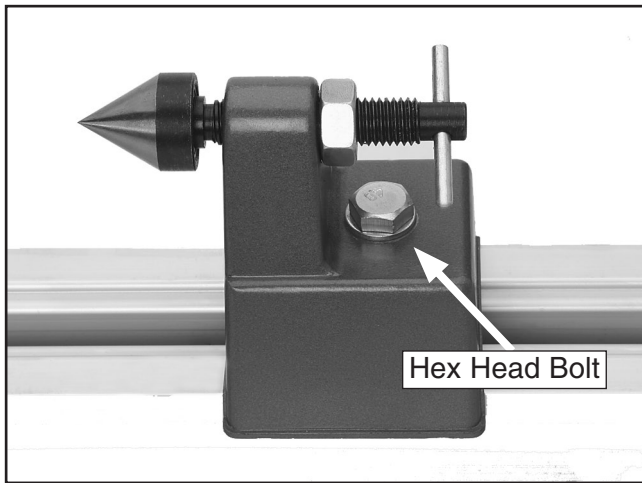

Figure 10. Mounting the tailstock.
7. Re-mount the tailstock to the lathe bed as shown in **Figure 10**. Position it temporarily a few inches from the end of the lathe bed and hand tighten the hex head bolt.